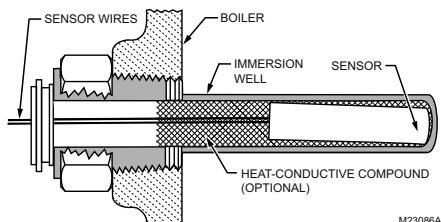

Fig. 9. Immersion well fitting for sensor.
The remote upper temperature sensor is installed in an immersion well (Fig. 9) that extends into the supply water side of the boiler.
6. With mounting clamp attached to well spud (make sure jaws of clamp hook over ridge at end of spud, as shown at points A in Fig. 9), adjust sensing lead-wire to fit through mounting clamp groove, as shown at point B in Fig. 9.